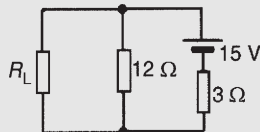

Figure 13.85
**Problem 24.** Find the value of the load resistor  $R_L$  shown in Fig. 13.85 that gives maximum power dissipation and determine the value of this power.